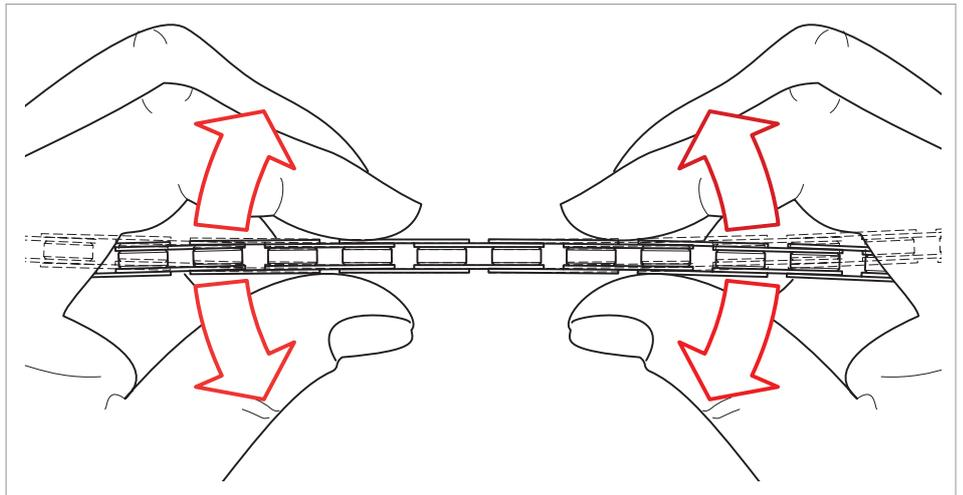

Fig.22
- Free the joints as required with delicate lateral bending of the links (**Fig. 22**).